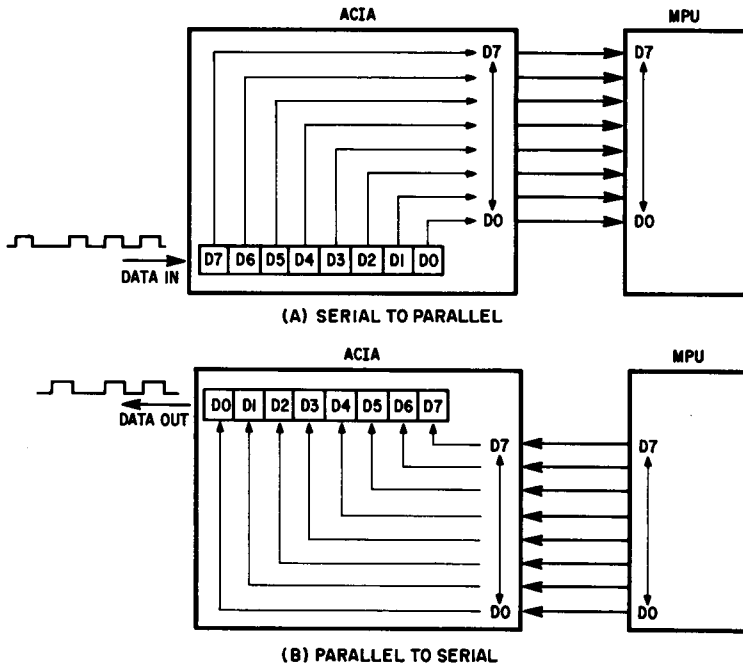

Fig. 9.22 Conversion functions of the ACIA
chronous Communications Interface Adapter (ACIA) permits data to be transmitted in a serial format with only one line, not the eight lines a PIA requires. The ACIA can function either as a serial-to-parallel converter or as a parallel-to-serial converter (Fig. 9.22). Data can be sent to the ACIA over the D0-through-D7 data lines; it is then converted to a series of 1's and 0's in the ACIA and sent out over a single line to a receiver. Likewise, data in the form of 1's and 0's can be received by the ACIA from an external source, converted to a parallel format in the ACIA and sent to the MPU over the D0-through-D7 data lines. As one can well imagine, a great deal of bookkeeping must be done when data bits are transmitted or received in a serial format to resolve such questions as: (1) Where does each group of bits stop and the next group start? (2) How does the ACIA know when it is to receive or send data? (3) How does the ACIA detect if a bit is lost? These questions, and many others, will be answered in this section.